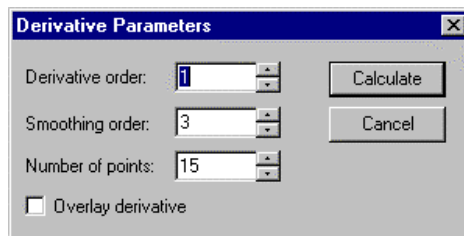

Fig. 6-12
Select the Derivative (D) command from the Data (D) menu or click the  button. The window in Fig. 6-12 will open.